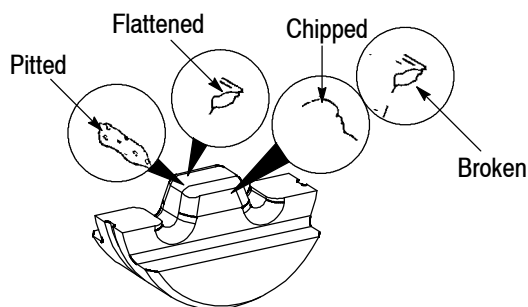

Figure 6
2. Check all surfaces for wear. Inspect the crimp area for flattened, chipped, cracked, worn, or broken areas. If damage is evident, the die must be replaced. Refer to Figure 6.